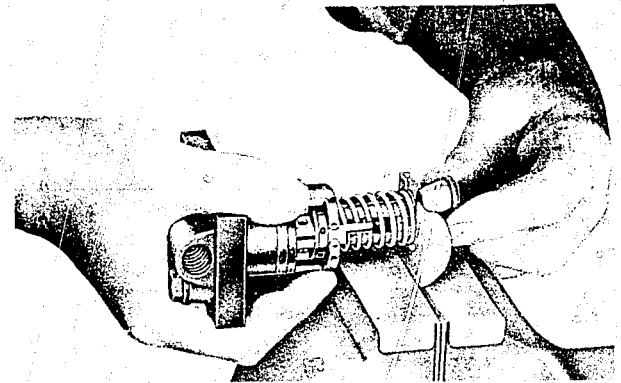

Figure 10
pressing tool in the vise and compress the plunger spring (7) until the plunger knob protrudes sufficiently to slip on the lower spring seat (10) (See Figure 10). Release the spring and slide off the unit.